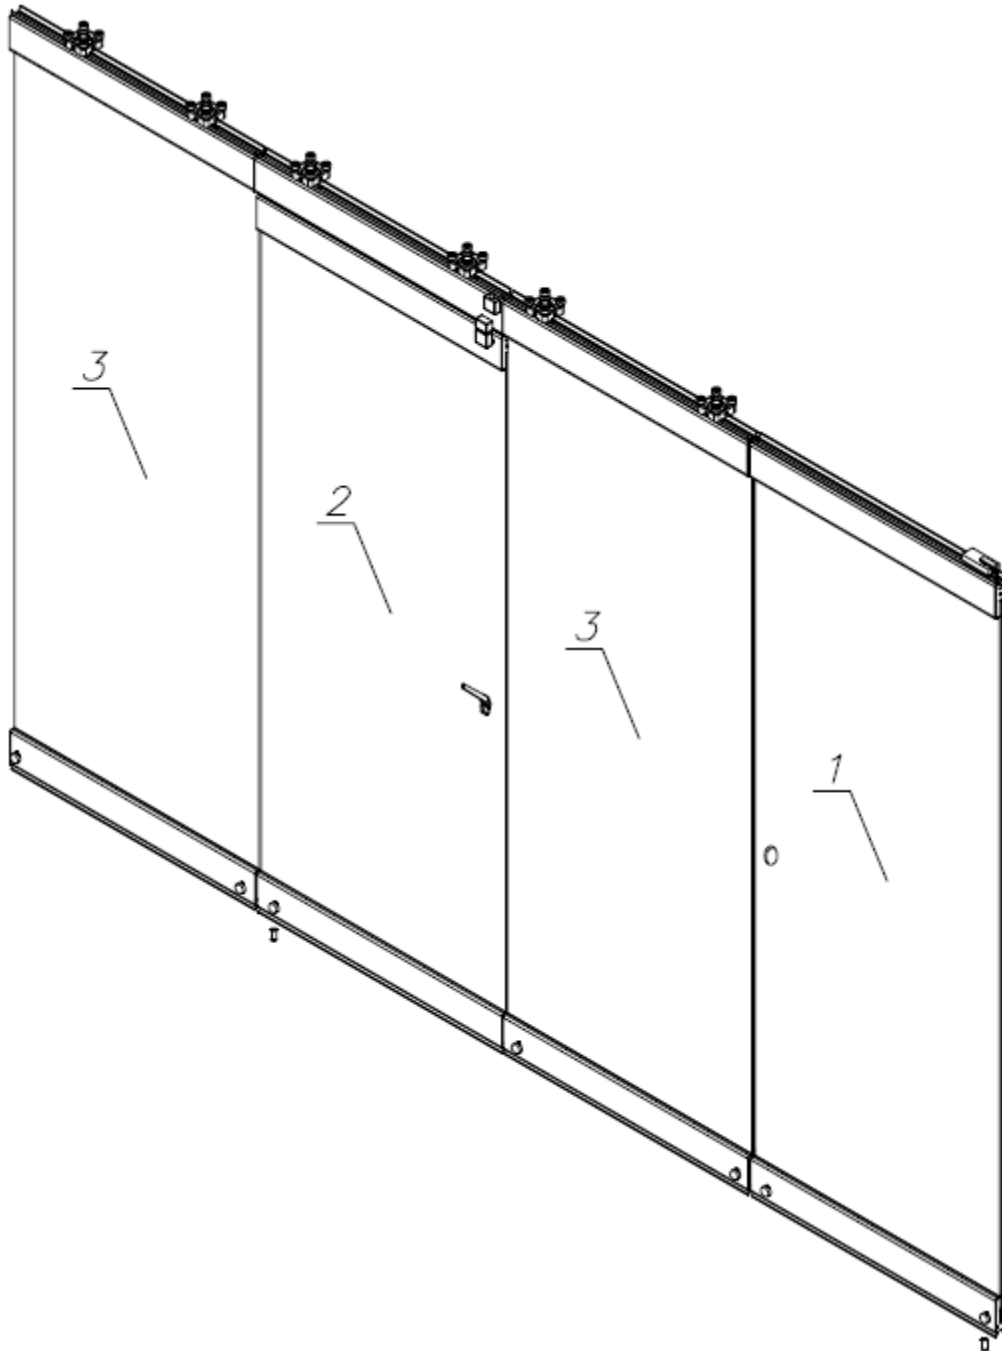
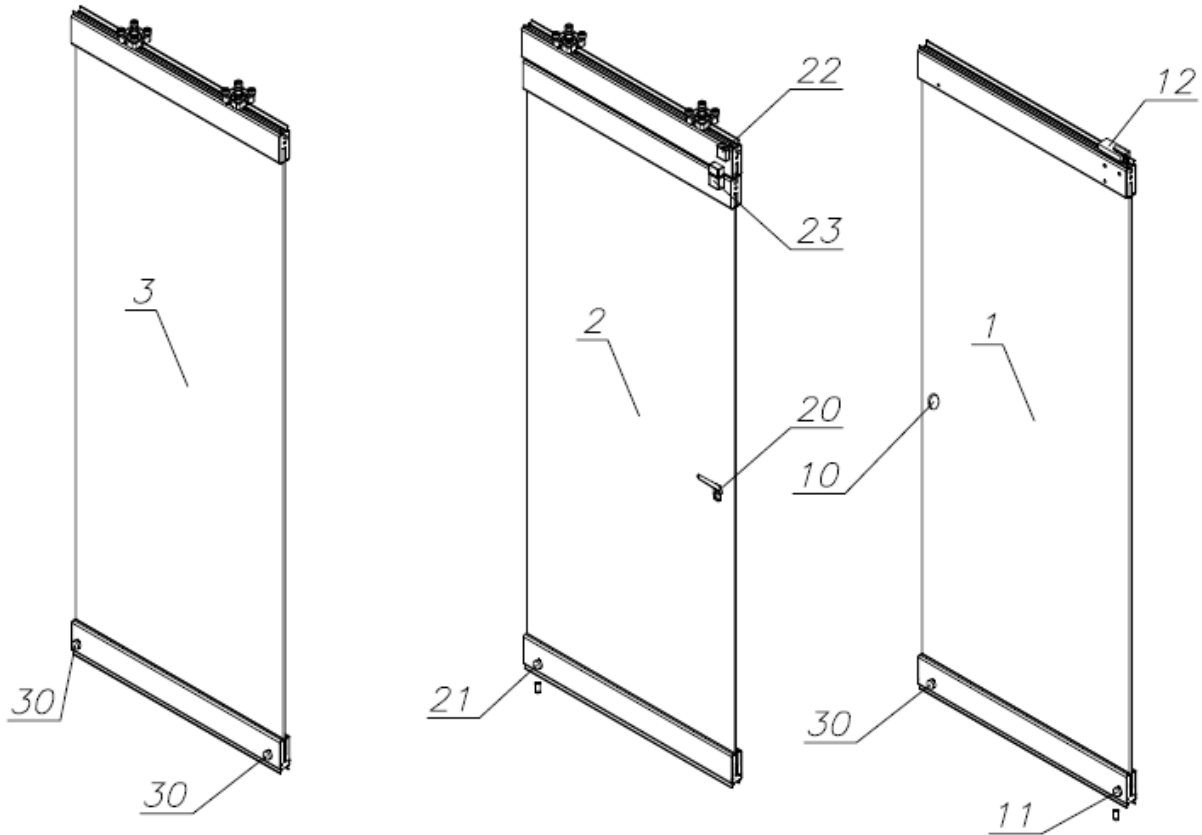

Fig.1 Exemplary diagram of the layout of the panels in a **2-point** all-glass partition wall:
Fig.2 Simplified diagram of the construction of basic modules of the 2-point mobile wall:
- **fixed door** (1 in Fig. 1), there is only a regular panel with locks (3 in Fig.2)
- **door panel** (2 in Fig.1)